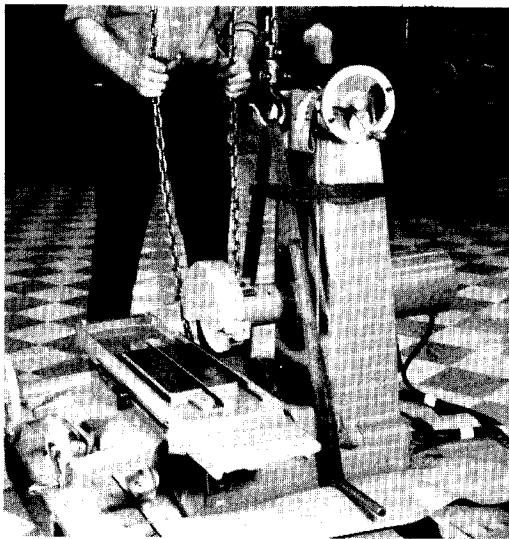

Figure 1
4.1 Place 3/4" steel bar through holes near bottom of grinder base. (*Fig. 1*)
4.2 Attach chain or rope to ends of bar and join near top of column. Strap to top of column. Pad machine adequately to prevent damage to finish. (*Fig. 1*)